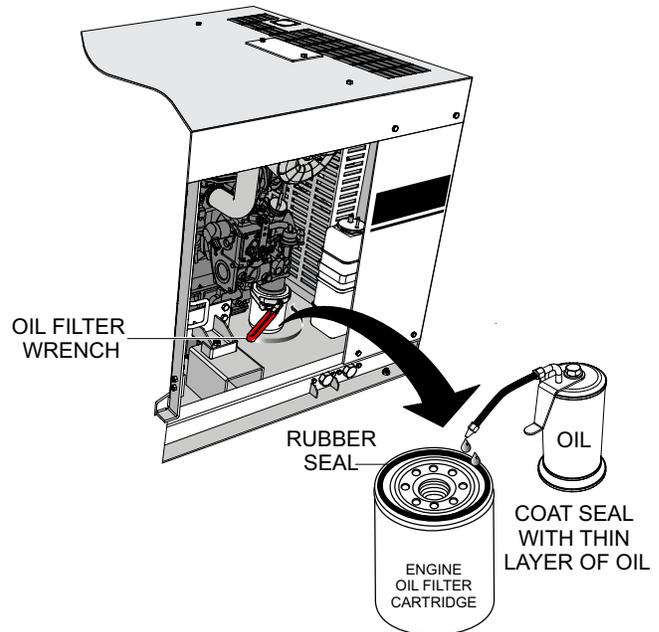

Figure 28. Oil Filter Cartridge
2. Coat oil filter seal (Figure 28) with clean engine oil.